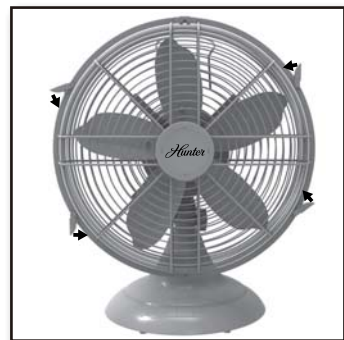

Figure 13
- Secure the grills completely together by snapping the 4 grill clips into place. Figure 13.